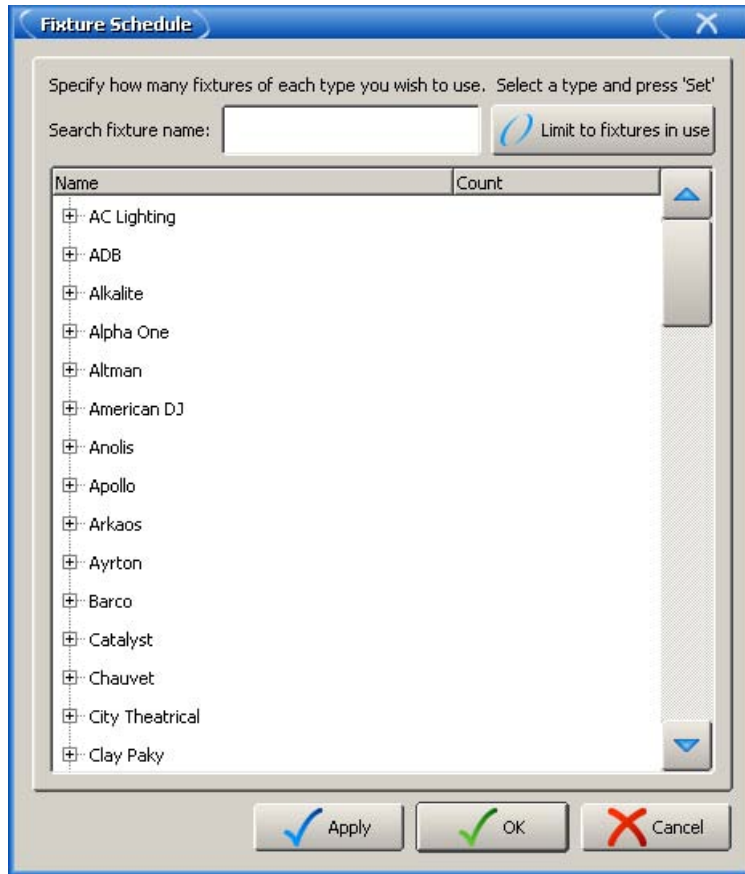

Figure 14.2. The Fixture Schedule window
You add fixtures using the Fixture Schedule dialog within the Fixture window; see *Figure 14.2*, “*The Fixture Schedule window*”. The Number column shows the number of fixtures of that type currently in the show.
2. Press the Fixture Schedule button in the top left hand corner of the Fixture window. The Fixture Schedule window will open with a list of fixture personalities in the current Fixture Library; see *Figure 14.2, “The Fixture Schedule window”*. Each fixture is listed under its manufacturer, while Desk Channels (conventional intensity-only fixtures such as parcans) and Scroller-Dimmers are listed under Generic.